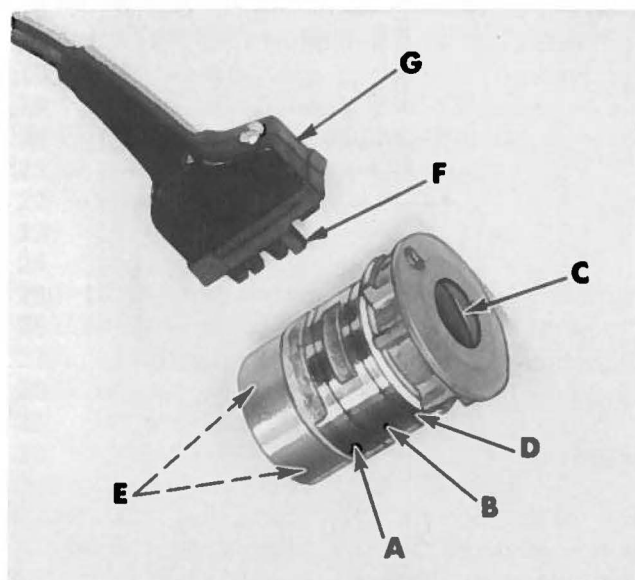
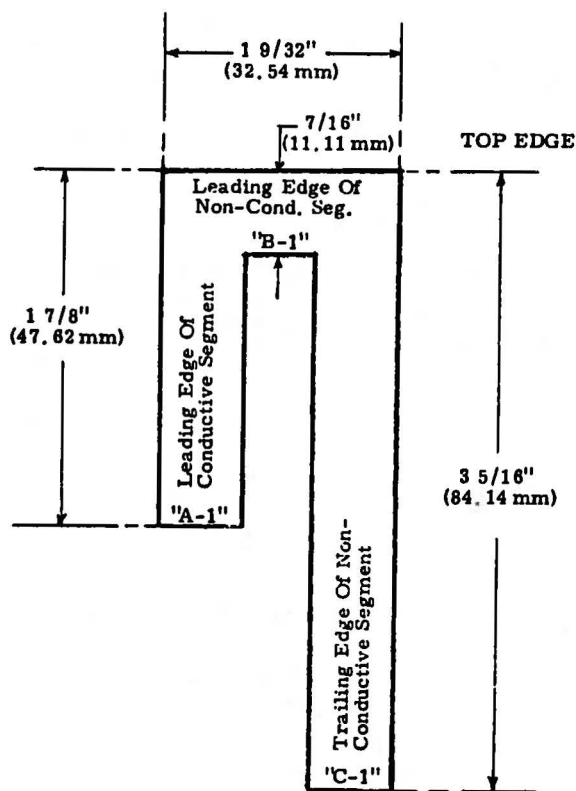

Fig. 38
Fig. 39
The synchronizer is composed of three slip rings and four carbon brushes. The hub, band (A, Fig. 38) is fixed on the synchronizer and controls the "cutting mechanism". Band (B) is adjustable by means of screw (C) and controls the "needle-up" position. Band (D) is also adjustable by means of screw (C) and controls the "needle-down" position.
Assemble the brush holder and bracket to the machine as shown in Fig. 1B and the synchronizer to the handwheel adapter. Do not tighten screws (E, Fig. 38) in the synchronizer hub, band (A) at this time. Loosen screw (C) so that bands (B and D) may be moved freely.
Figure 39 is provided to show dimensional relationships for setting the bands of the synchronizer. A plastic rule may be used for making these settings as compared to the sketch in Fig. 39. Visualize from the operator's position while seated at the machine, placing the top edge of sketch (Fig. 39) over the top of the bands until contact is made FLUSH with the edge of the brushes (NOT THE BRUSH HOLDER) and proceed as follows:
Rotate hub, band (A, Fig. 38) of the synchronizer in the operating direction until the LEADING EDGE of its CONDUCTING segment aligns with ("A-1", Fig. 39) $1 \frac{7}{8}$ inches (47.62 mm). Secure the synchronizer to the handwheel adapter in this position by screws (E).
Rotate band (B, Fig. 38) in the operating direction until the LEADING EDGE of its NON-CONDUCTING segment aligns with ("B-1", Fig. 39) $\frac{7}{16}$ inch (11.11 mm). WHILE HOLDING BAND (B) IN THIS POSITION, rotate band (D) in the operating direction until the TRAILING EDGE of its NON-CONDUCTING segment aligns with ("C-1", Fig. 39) $3 \frac{5}{16}$ inches (84.14 mm).
With the power off, remove the throat plate and turn the handwheel in the operating direction until the needle has reached its lowest position; continue to turn the handwheel in the operating direction until the hook point has passed the needle by approximately $\frac{5}{64}$ inch (1.98 mm). At this point, the NON-CONDUCTING segment of band (D, Fig. 38) should be on brush (F).